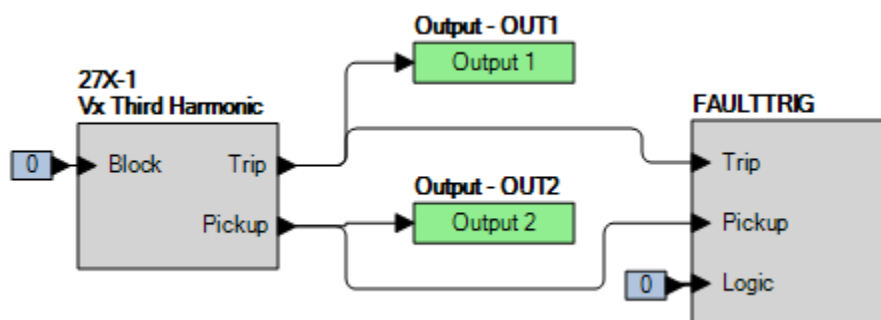

Figure 61-5. BESTlogicPlus Settings (Vx Third Harmonic Mode)
- Step 4: Prepare to monitor the 27X-1 function operation. Operation can be verified by monitoring OUT2 (see Figure 61-5).